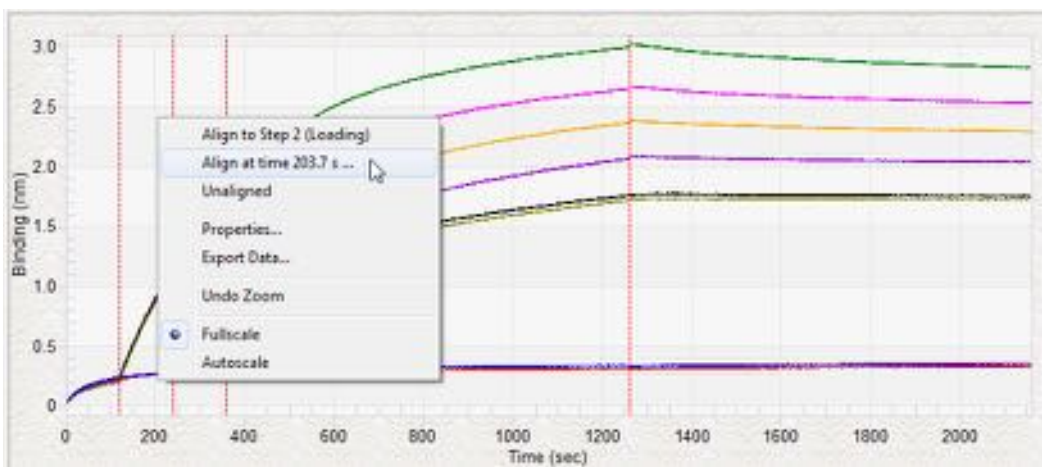

Figure 9-64: Runtime Binding Chart—Aligning the Data to a User-Specified Time
1. To align the binding data to a specific time, in the **Runtime Binding Chart** (see Figure 9-64), right-click and select **Align at time**.